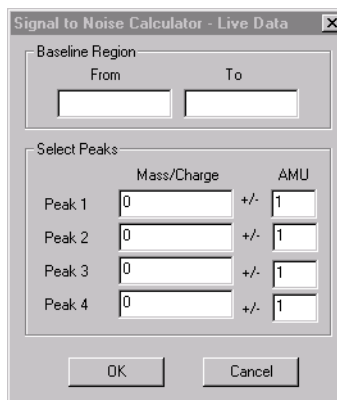

Figure 4-17 Signal to Noise Calculator
3. In the Signal to Noise Calculator dialog box (Figure 4-17), set the Baseline Region by doing one of the following: